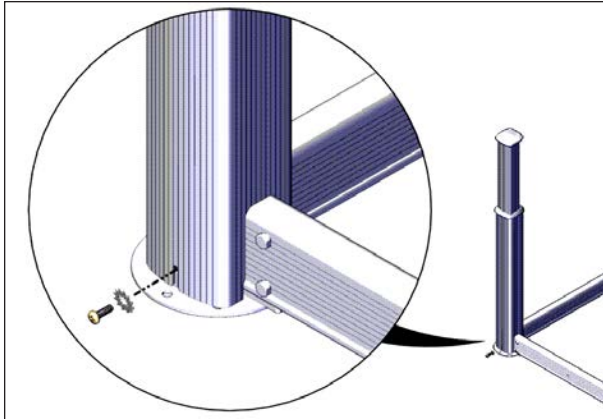

FIGURE 43: MOUNTING SCREW ON THE SLEEVE
- Fasten the sleeve with the Phillips M6 x 20 mm screws at the bottom of all four sleeves, see Figure 43.